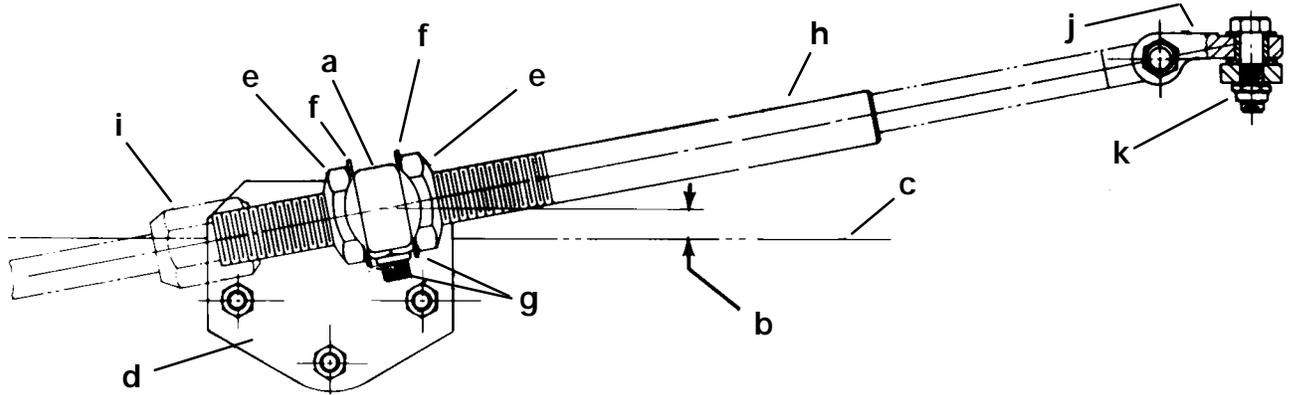

Figure 3
4. Install one cable tube jam nut onto steering cable tube. Place tab washer over Ride-Guide yoke, then insert cable tube thru tab washer and yoke. Install second cable tube jam nut onto cable tube but do not tighten at this time. (Figure 3)
- b. Position attaching kit on transom so that **transom bracket is centered on the 15 in. (38.1mm)** (Figure 1) at a height where the **center of Ride-Guide yoke is even with, or not more than 1/2 in. (12.7mm) above top edge of transom.** (Figure 3)
2. Install steering cable thru steering cable tube and secure to cable tube with cable attaching nut. (Figure 3) Do not tighten cable attaching nut at this time.
4. Adjust 2 large jam nuts on cable tube of attaching kit, so that **steering wheel** is in normal straight-driving position with outboard in straight-running position. Torque each jam nut to 35 lb. ft. (47.5 N·m), then bend a side of tab washer against flat of each jam nut. (Figure 3)
5. Torque Ride-Guide cable attaching nut (which secures cable to guide tube) to 35 lb. ft. (47.5 N·m). (Figure 3) Install locking sleeve over cable attaching nut and secure with cotter pin. Spread ends of cotter pin.